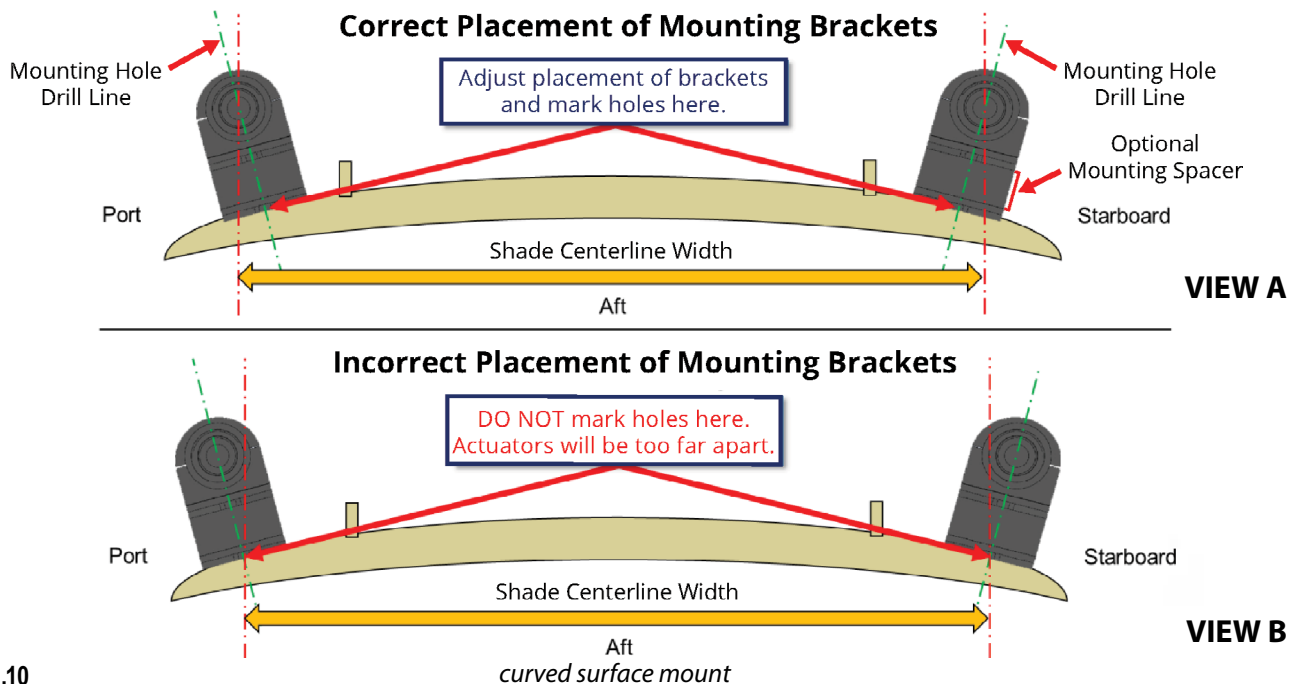

Fig.10
- A. To determine mounting hole location for topside surface mount with curvature, see Fig.10. The mounting holes will ultimately be drilled narrower than the shade centerline.
- For curved surface mount, drill on an angle perpendicular to surface (Fig.10, VIEW A).